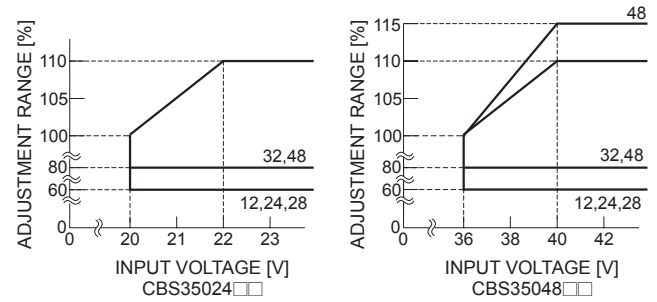

Fig.4.4-1 CBS350 Output Voltage Adjustment Range
- When input voltage is 20 - 22VDC with CBS35024 models or 36 - 40VDC with CBS35048 models, the output voltage adjustment range becomes as shown in Fig. 4.4-1.